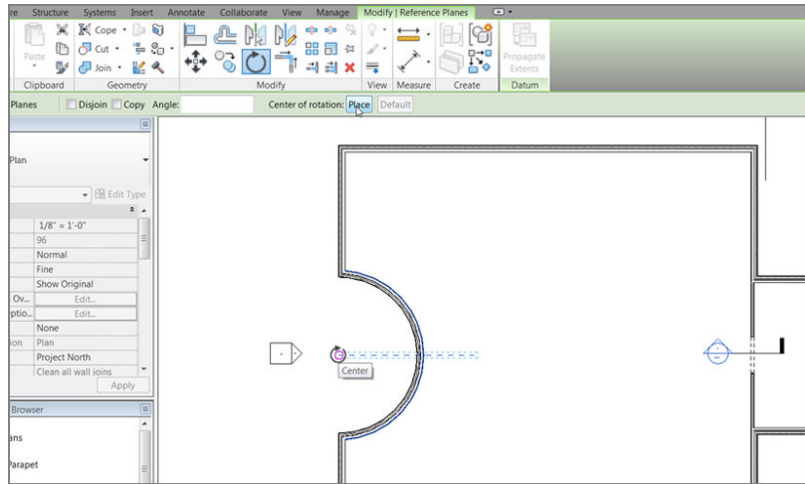

FIGURE 4.9 : Relocate the origin point for the rotation.
3. After you start the Rotate command, look back at the reference plane. Notice the blue dot in the middle of your line. Revit always calculates the center of an object (or group of objects) for the rotate point (see Figure 4.9).
4. On the Options bar, click the Place button, and select the end point of the reference plane. A temporary rotate icon appears, indicating that you can now move the blue dot (see Figure 4.9).